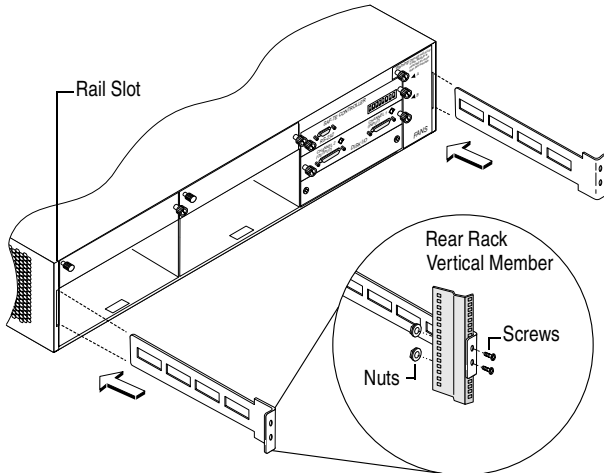

Figure 3-8 Attaching the Rails
- Slide one of the rack's mounting rails into the slot on the left side of the RAID appliance's back panel. See Figure 3-8.
- 5 Slide one of the rack's mounting rails into the slot on the left side of the storage enclosure's back panel. See Figure 3-8.